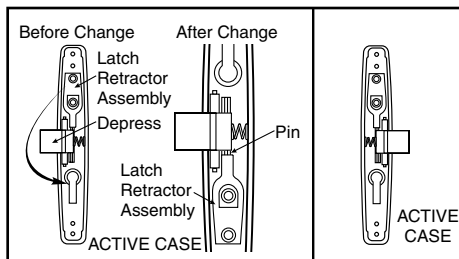

Figure 16
3. To reverse latch retractor assembly, depress latch bolt with finger then lift out assembly and reposition in opposite end of active case so that slot in latch retractor engages pin in back of latch. (Figure 16)